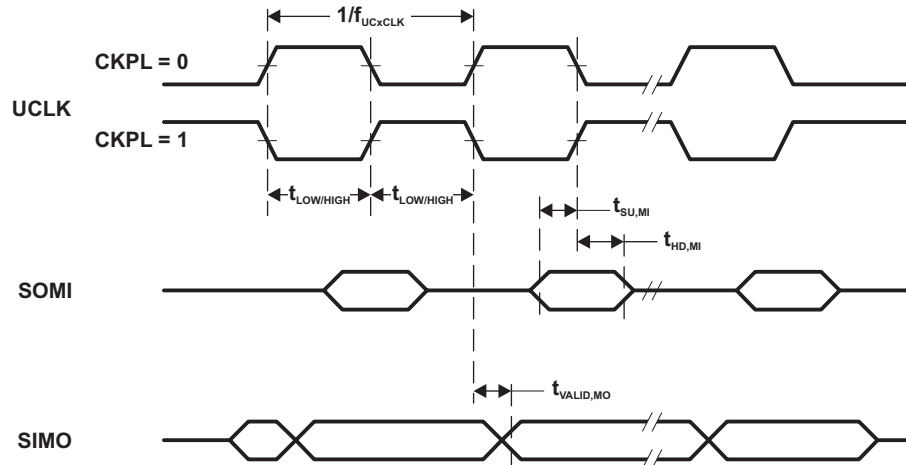
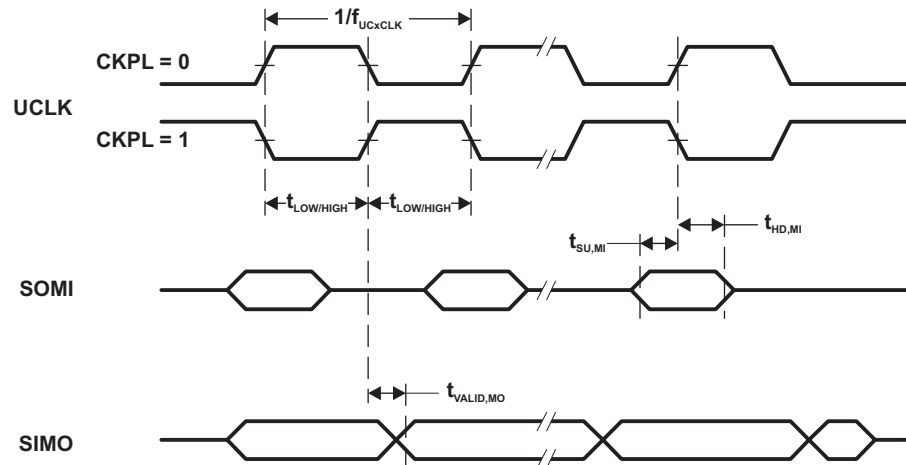

Figure 5-12. SPI Master Mode, CKPH = 0
Figure 5-13. SPI Master Mode, CKPH = 1
- (1) f_{UCxCLK} = 1/2t_{LO/HI} with t_{LO/HI} = max(t_{VALID,MO}(eUSCI) + t_{SU,SI}(Slave), t_{SU,MI}(eUSCI) + t_{VALID,SO}(Slave)). For the slave parameters t_{SU,SI}(Slave) and t_{VALID,SO}(Slave), see the SPI parameters of the attached slave.
- (2) Specifies the time to drive the next valid data to the SIMO output after the output changing UCLK clock edge. Refer to the timing diagrams in Figure 5-12 and Figure 5-13.
- (3) Specifies how long data on the SIMO output is valid after the output changing UCLK clock edge. Negative values indicate that the data on the SIMO output can become invalid before the output changing clock edge observed on UCLK. Refer to the timing diagrams in Figure 5-12 and Figure 5-13.